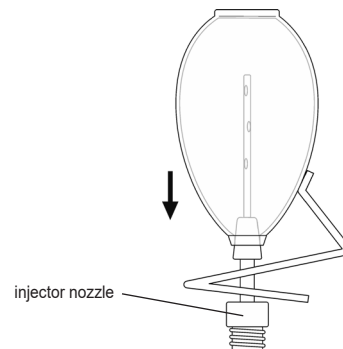

Fig. 3
- Attach the open end of the silicone bulb onto a suitable injector nozzle (fig. 3).